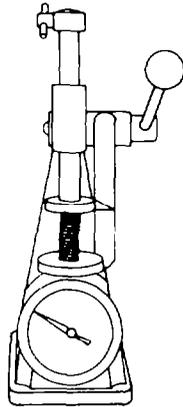

Figure 97 — Injector Spring Free Length and Tension — Checking
- at. Using a suitable valve spring tester (see Fig. 97), test the springs to the lengths detailed in Table 12 and discard the springs if the length is achieved at less than the minimum load detailed in Table 12.